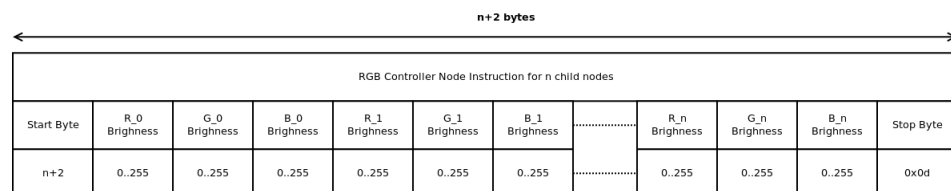

Figure 2: Instruction Format
The instruction bytes (specified in Figure 2) can be sent via the G2553 launchpad's USB port or by connecting P1.1 (RX) to a UART signal. The controller's output can also be viewed by connecting the launchpad's USB to a computer and running a serial terminal (such as cutecom) that is able to view the hexadecimal bytes transmitted by the controller, or by connecting P1.2 (TX) to a UART decoder.